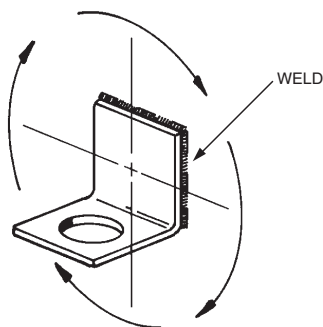

FIGURE 1
1. Based on the layout sketch, locate a secure place for mounting the nozzle bracket so that the nozzle will be properly aimed, and weld the bracket to the mounting surface. When welding the bracket, make certain there is enough weld to keep the bracket properly in place. See Figure 1.